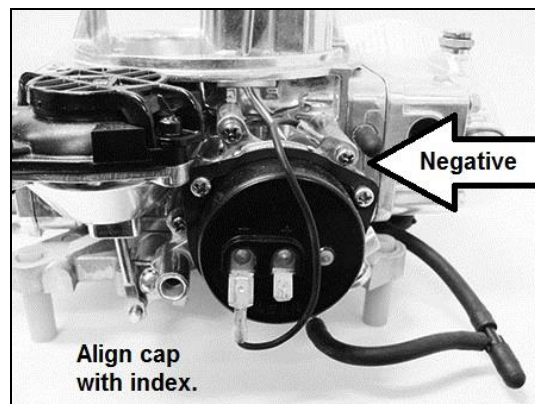

Figure 9
11. Use the shortest wire from the kit and connect the bayonet end to the negative choke cap terminal marked (-). Ground the eyelet end to the carburetor. Do this either under a screw on the vacuum secondary diaphragm cover or under a screw securing the choke housing to the main body as shown in Figure 9.